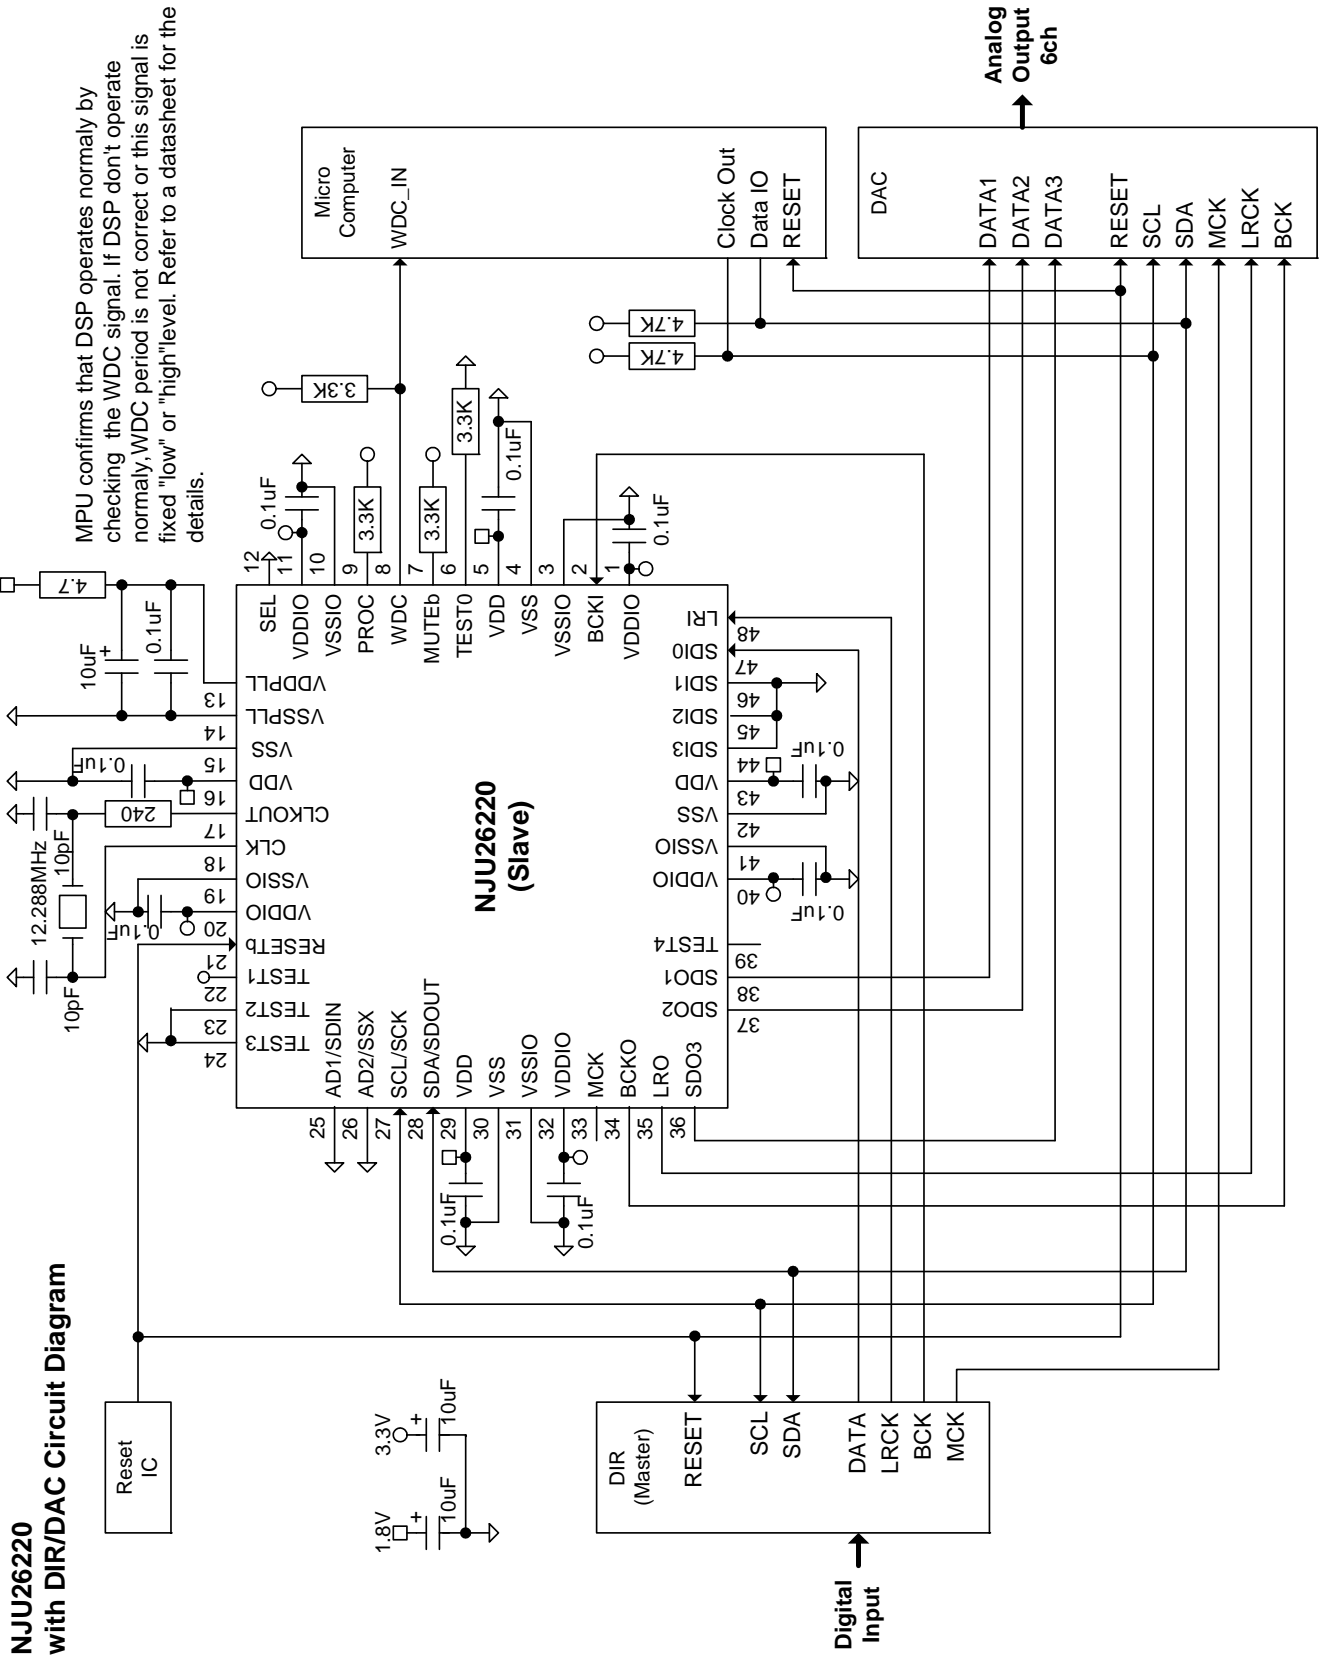
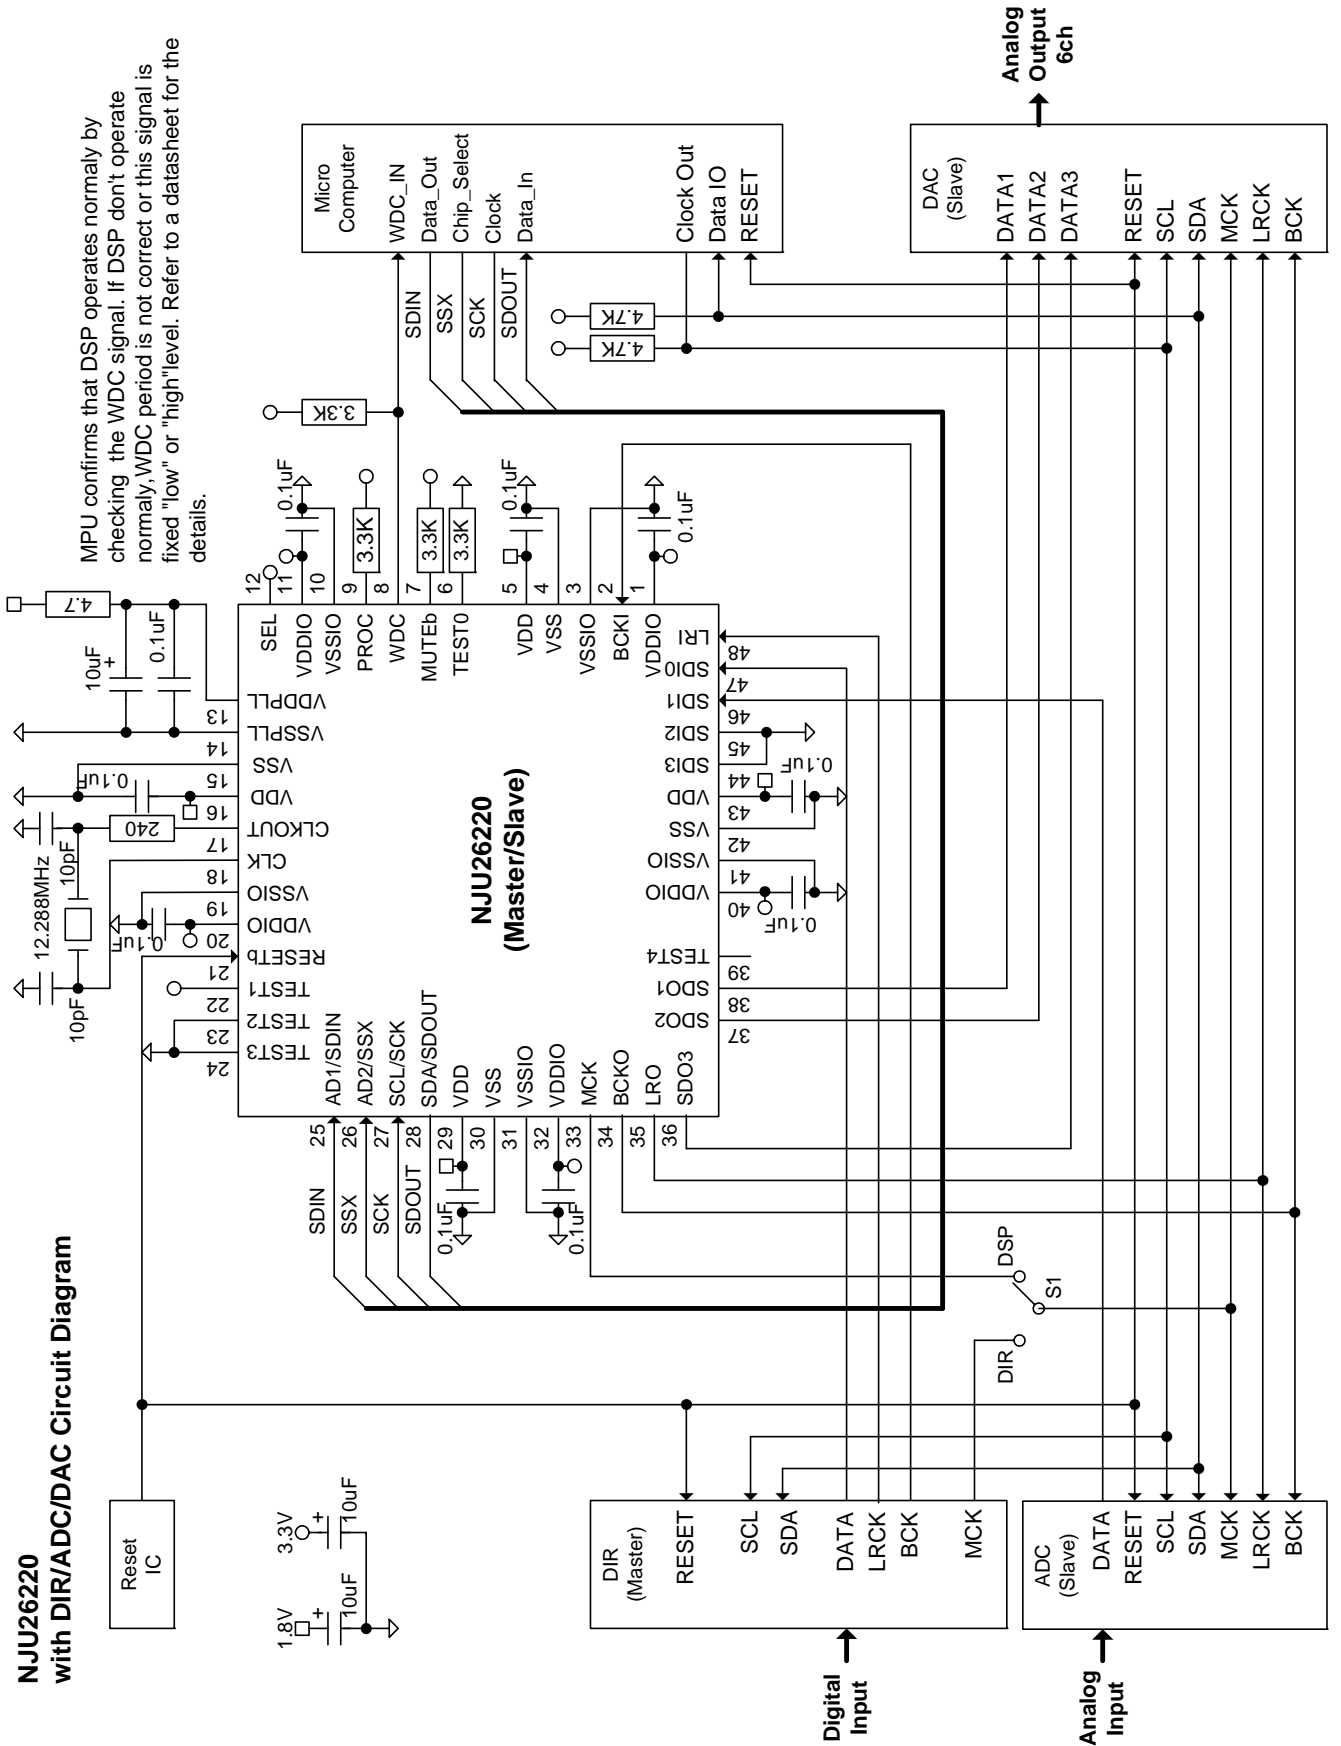

Figure 3. Application circuit 1: NJU26220 with DIR and DAC (I²C Bus)
Figure 6. Application circuit 4: NJU26220 with DIR, ADC and DAC (4-wire Serial Bus)
Note3: The ADCs and DACs operate in Slave mode in the Figure 3 to Figure 6.
The Figure 3 shows the circuit with DIR, DSP and DAC. The DSP operates in the Slave mode.
This application circuit 4 is the example circuit to control the DSP by the 4-wire serial bus. The Figure 6 shows the circuit with DIR, ADC, DSP and DAC. The difference between the application circuit 3 and this application is just using the I²C Bus or the 4-wire serial bus.
- 1) The DSP employs three kinds of power supplies, core (V_{DD}), PLL (V_{DDPLL}), and IO (V_{DDIO}). The V_{DD} and V_{DDPLL} are 1.8V. The V_{DDIO} is 3.3V. The input terminals accept 5V signal. The Figure 3 to Figure 6 circuits assumes that the peripheral ICs employ 3.3V power supply. Then the DSP can connect to the peripheral ICs directly.